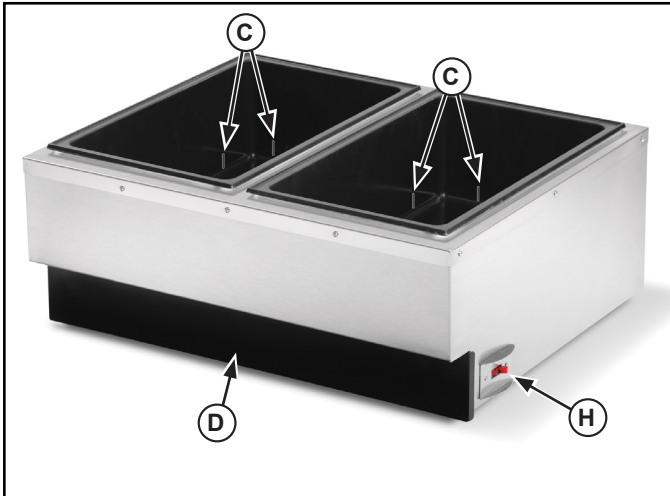

Figure 2. Features and Controls
- Fill the well(s) to the correct level marks (C) with clean fresh water. The correct level is about 1" (2.5 CM) or approximately 5.5 quarts (5.2 L) of water. Do not over fill. See Figure 2.
- Preheat the water in the wells by covering wells with empty food containers or covers. Open the access door (D). Turn the ON/OFF and heat control switch (A) to the ON position and set the heat control to the maximum heat setting (10). See Figures 2 and 3. Preheat for 15 minutes.